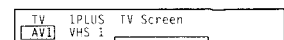

Fig. 45.
- 2 Select TV Screen (input source for the TV screen) or output (output source) with  $\Delta$ + or  $\nabla$ - and press OK. One of the source items changes colour. (See Fig. 45)